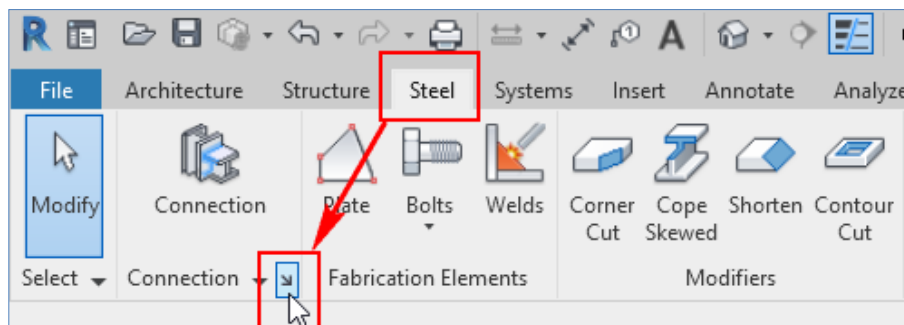

FIGURE 29: INVOKING THE STRUCTURAL CONNECTION SETTINGS DIALOG BOX IN AUTODESK REVIT
2. From the **Steel** tab, click on **Connection Settings**, as shown in Figure 29; the **Structure Connection Settings** dialog box will be displayed.